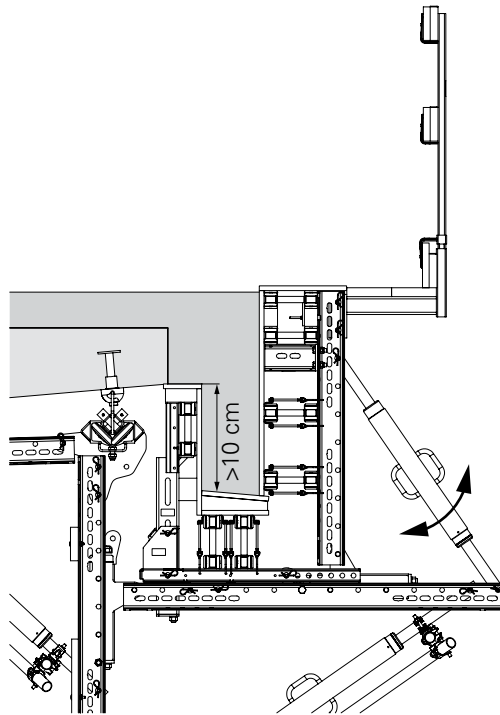

Fig. A2.05
- With the adjustable Vertical Post VGB 100 (3), the internal formwork can be adapted to suit the structure separately from the external formwork. (Fig. A2.05)